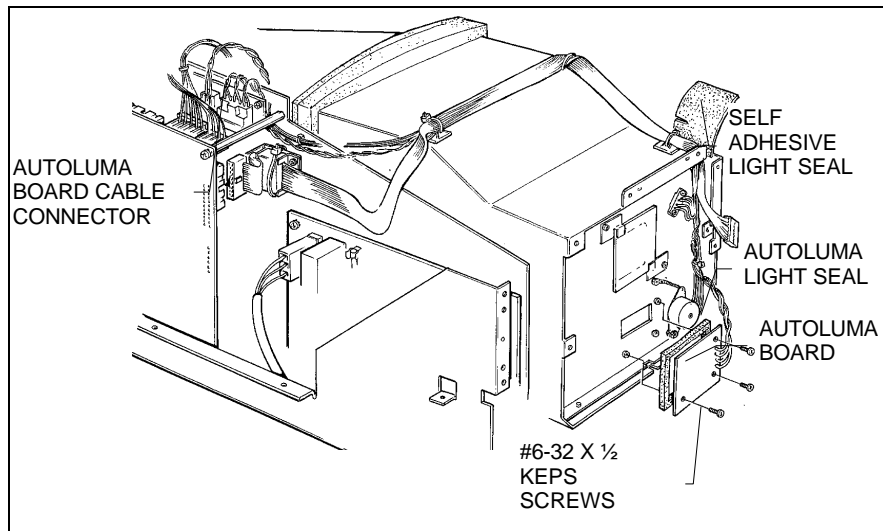

Figure 6-12. Removing the autoluma board
5. Remove the three #6-32 x ½ keps screws which secure the Autoluma Board Assembly to the Front Panel. (Figure 6-12)
3. Carefully peel back the self-adhesive light box seal at the top right corner of the Front Panel Assembly. (Refer to Figure 6-12.) Fold it back far enough to expose the cables under it. Temporarily adhere the folded seal to the side of the unit.